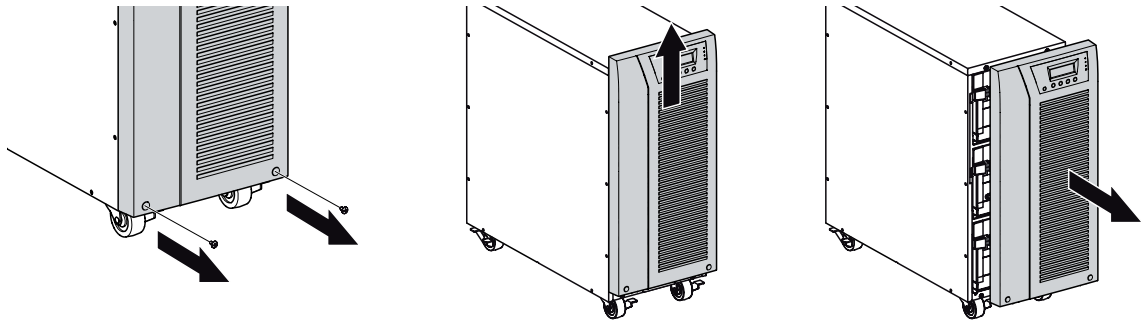

Figure 5. Removing the UPS front cover.
1. Remove the UPS front cover (see figure 5).